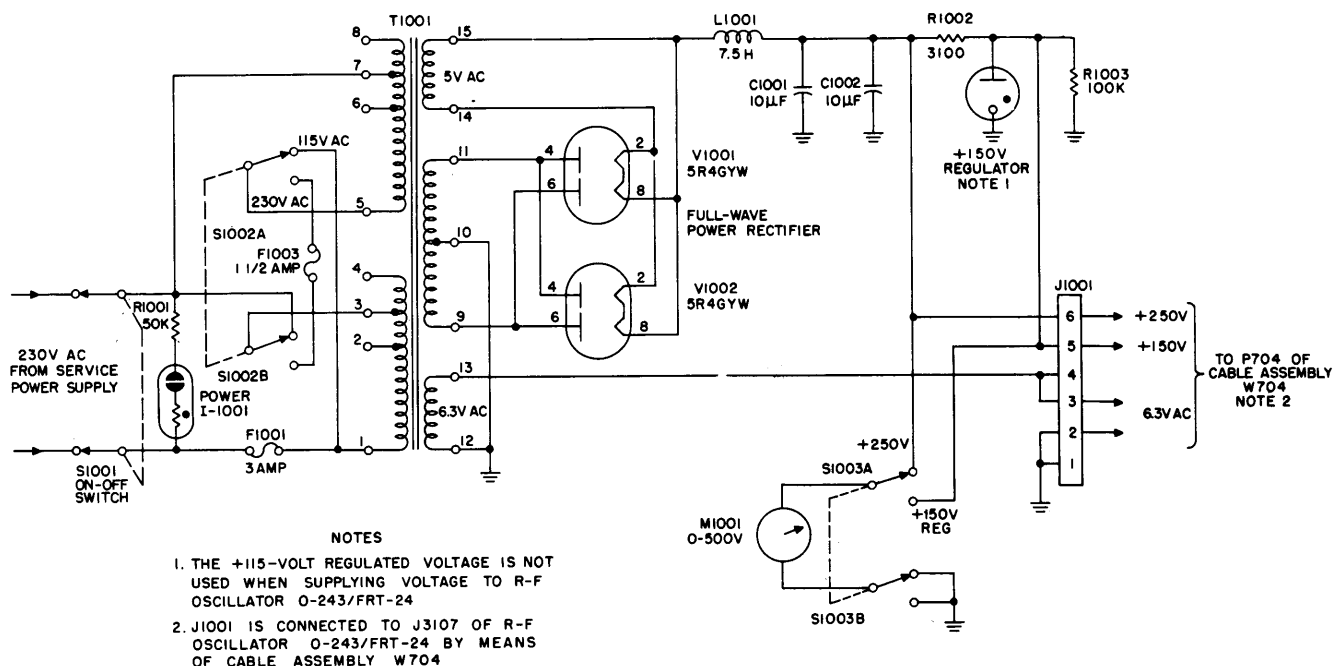

Figure 2-49. Operative Section of Power Supply PP-454/FRT-5, Simplified Schematic
f. POWER SUPPLY PP-454/FRT-5. — One section of Power Supply PP-454/FRT-5, shown in figure 2-49, provides the filament and plate potentials necessary for the operation of R-F Oscillator O-243/FRT-24. Refer to the over-all schematic diagram in figure 7-66. A voltage of 230 volts, ac, is applied from the Service Power Supply to both sections of the primary winding of power transformer T1001, which are connected in parallel through switch S1002A located on the rear of the chassis. Switch S1002A permits operation from either a 115-volt or a 230-volt, a-c source; in the 115-volt position, the two primary